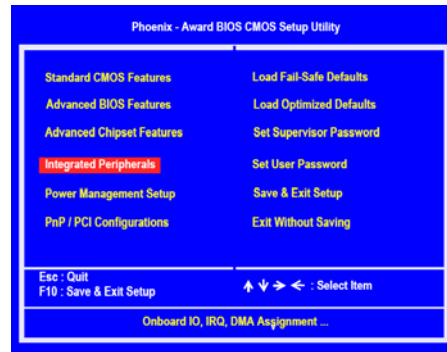

Figure 2.1 BIOS CMOS Setup Utility Main Window
- 2 Use the arrow keys to select Integrated Peripherals (see Figure 2.1), then press Enter.